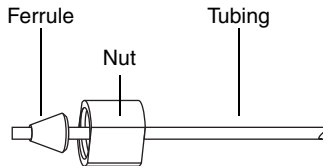

Figure 3-3 Preparing a bulkhead fitting connection
- a. locate the black nut and ferrule in the accessory package. Slide the nut and ferrule onto the tubing as shown in Figure 3-3.